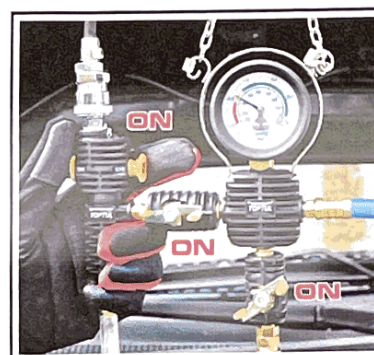

Fig.6
2. Turn on air switch (No.5) and air control valve (No.3) then turn on coolant control valve (No.6) to ensure coolant remains hose. (Fig.6)